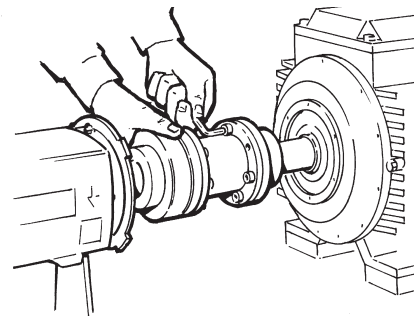

Fig. 1
2. Remove the coupling spacer, Fig. 1, and loosen the screws securing the pump drive-end support foot to the baseplate.